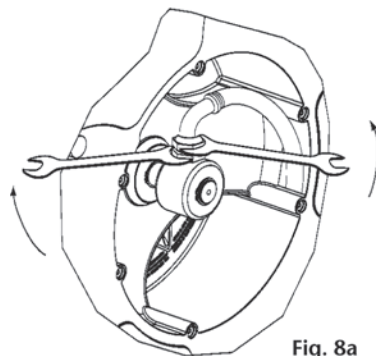
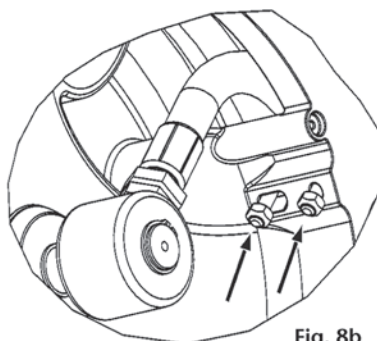

Fig. 8a
Fig. 8b
- Fix the hose to the swivel as indicated in figure 8a and fix the U bolt as shown in figure 8b.
- Disconnect the hose as shown (fig. 8a). Release the hose from the disk by removing the clamp (fig. 8b).
- Desconectar la manguera usada según se indica en la imagen (fig. 8a) y liberar la manguera del disco retirando el abarcón de fijación manguera (fig. 8b).